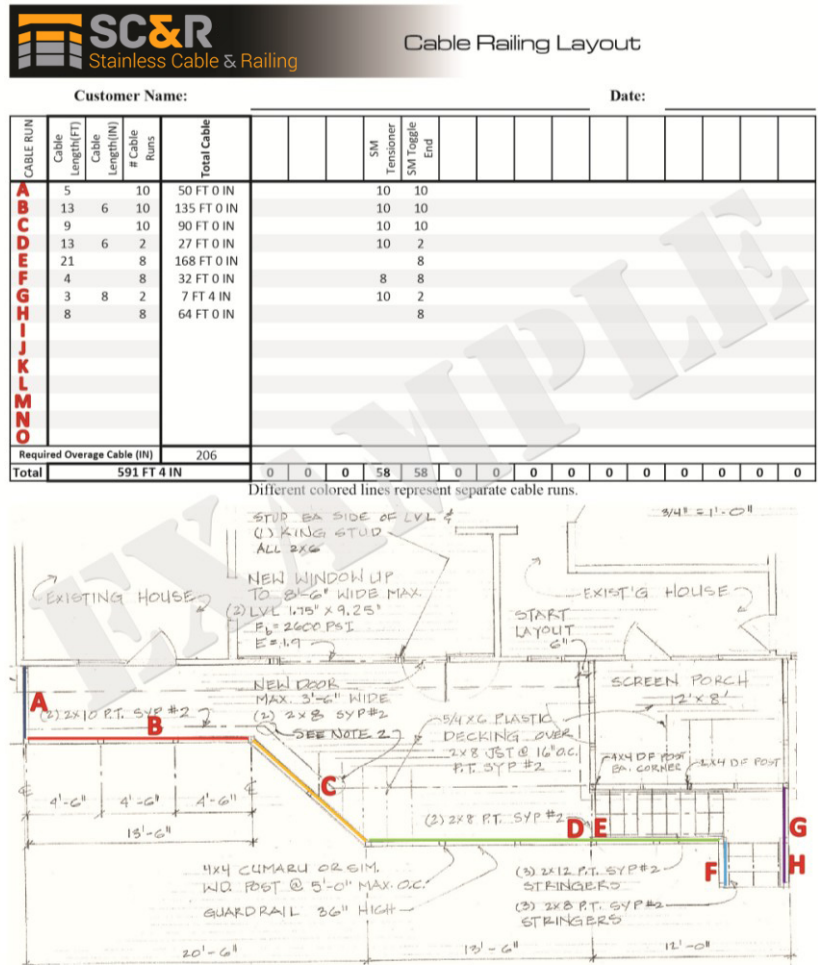

Fig 1
- Determine where the cable will start and stop (ie; Sections). Reference the color-coded layout sheet (Fig 1) if it was included with these instructions.
NOTE: Reference the layout sheet (Fig 1) to determine the fitting type and location.